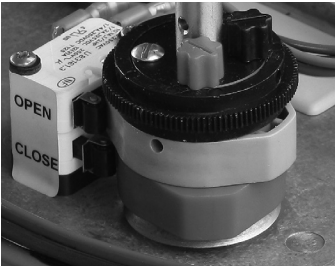

Figure 3. Two SPDT Travel Limit Switches
- 6.5.2 Settings are changed using the cursor, visualized by a flashing indicator. To produce the cursor, the up or down arrow key must be pressed, causing one of the setting indicators to flash. Pressing or holding the Up or Down Arrow will move the cursor in the respective direction, as illustrated in Figure 3. Producing the cursor does not alter any settings without further user input, and the cursor will automatically timeout if the keypad is not used.